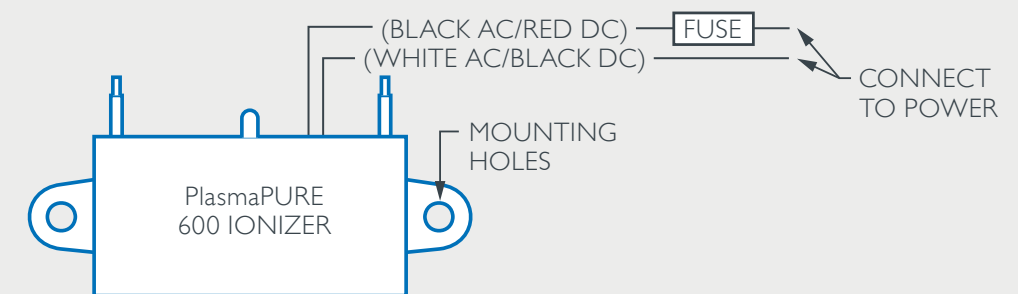

FIGURE 3
2. Connect power to ionizer using appropriate voltage per the following: See figure 3. 601=12VDC, 602=24VAC, 603=120VAC, 604=230VAC